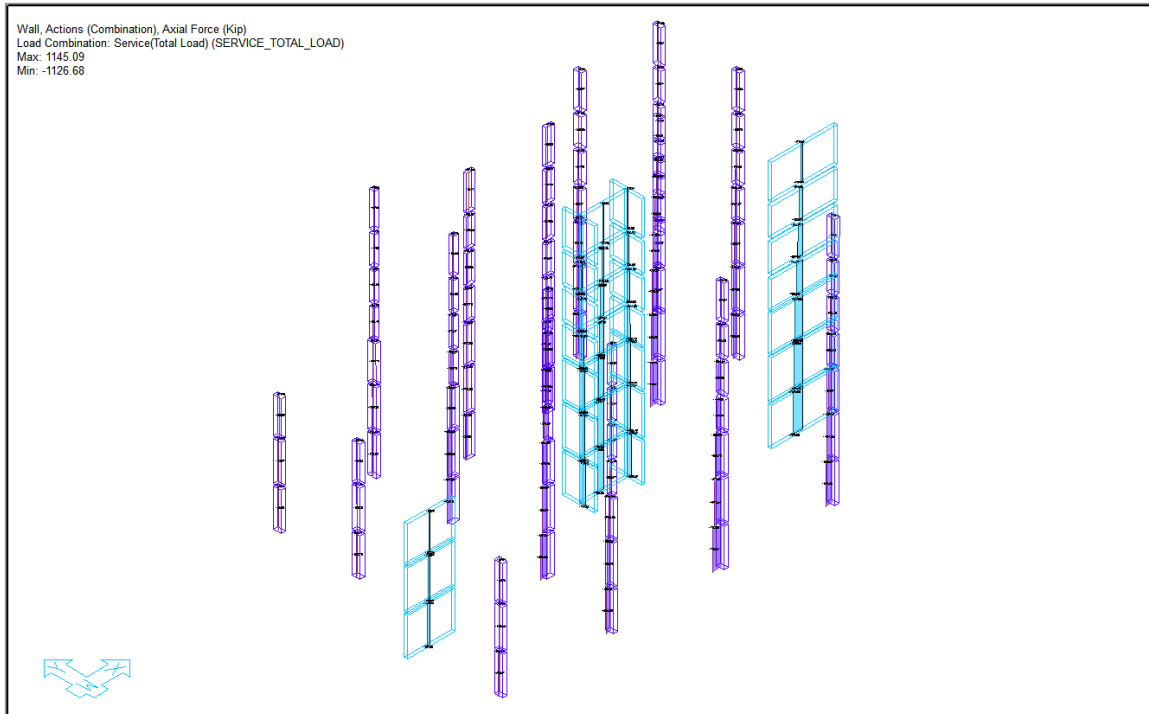

FIGURE 7-23
- Check the box next to **Axial Force**. The user at this point should see the axial force diagram along the column and wall stacks as shown in **FIGURE 7-23**.